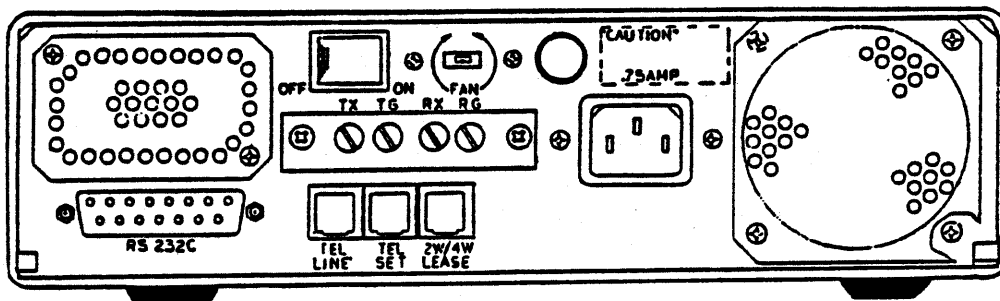

Figure 2-1 AJ 9631-S Rear Panel
1. Connect the modem to the DTE by attaching an RS-232-C cable to the DTE and to the female RS-232-C port on the rear of the AJ 9631-S. (Maximum cable length = 50 feet.) The rear panel of the AJ 9631-S is illustrated in Figure 2-1.